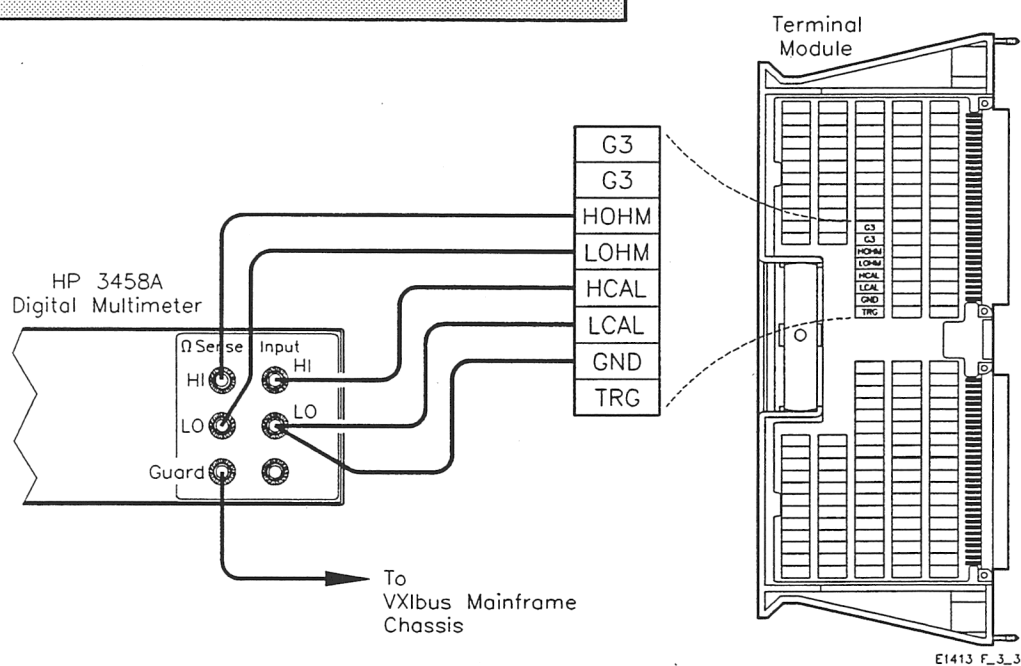

Figure 3-3. Resistance Measurements - Term Mod Conn
- Connect the equipment as shown in Figures 3-3 through 3-6, using the connections on the terminal module or the Cal Bus connections on the Scanning A/D.
[a] Make 4-wire resistance connections (see Figure 3-3 or 3-4)